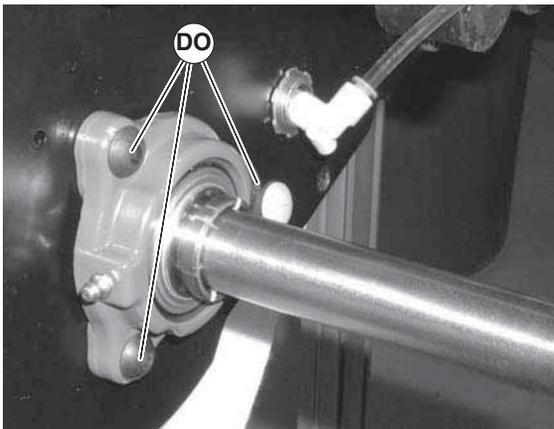

Figure 107
6. Tighten three (3) mounting screws (Figure 107, item DO) to 200 in-lbs (22.5 N-m).